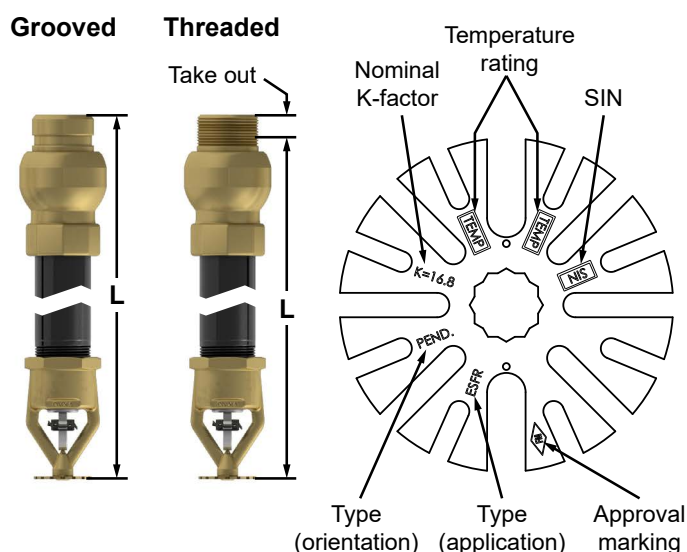

Figure 1: Sprinkler Dimensions and Markings
5. Refer to Figures 1 and 3. Install the dry sprinkler boot assemblies around the dry sprinkler barrel and to the freezer until the seals rest flush against the top of the freezer.